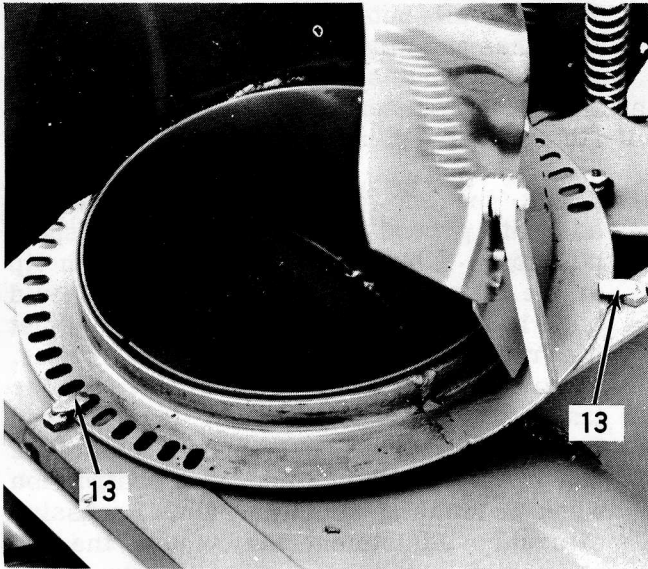

Figure 10. Installing the Elbow and Deflector
13. Apply grease to all areas of contact between the discharge elbow and chute, including the front corners of the auger adapter plates, under sides of the guides and so forth. Place the elbow and deflector assembly over the discharge chute. Turn the front and left guides over the elbow ring and secure by tightening the two lower hex nuts. See Figure 10.